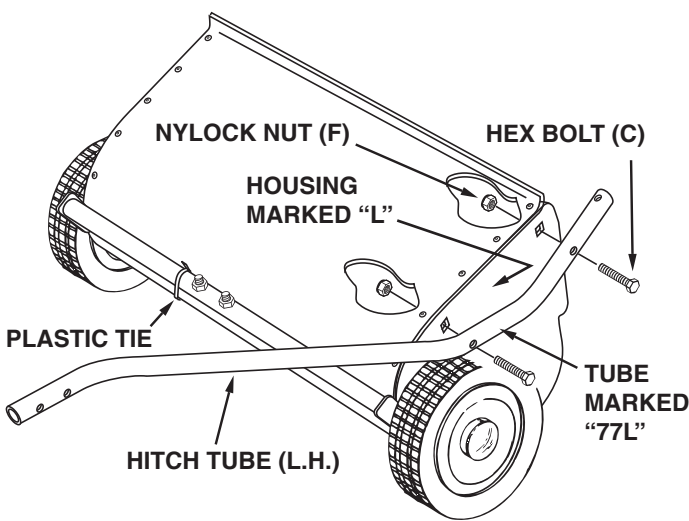
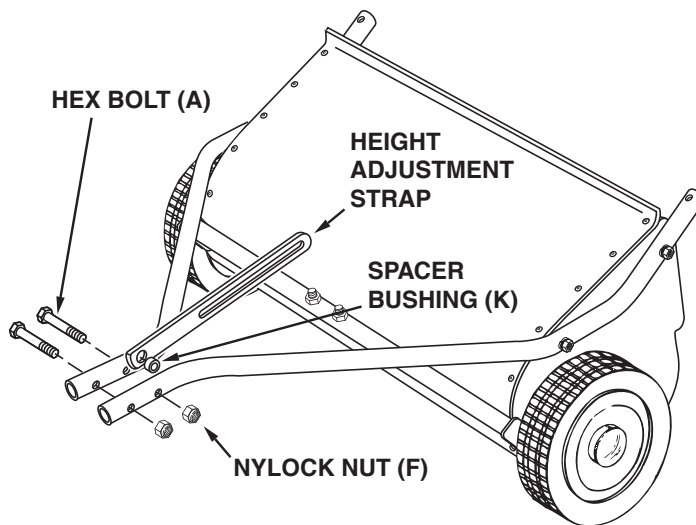
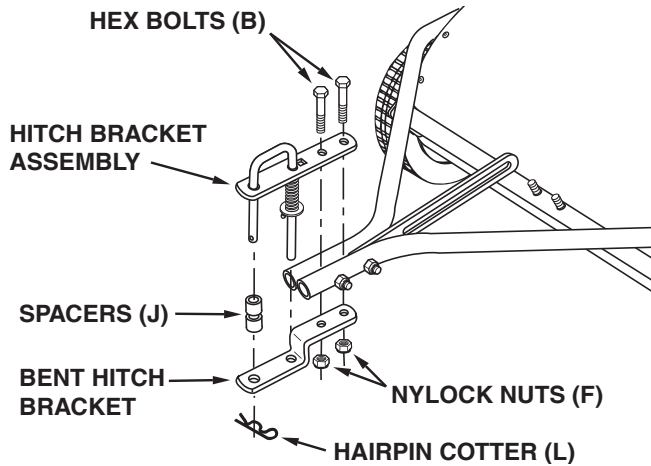

FIGURE 1
FIGURE 2
FIGURE 3
- (1) Scissors or knife
- The hitch tubes are stamped with a "77L" for the left tube and a "76R" for the right tube. The sweeper housing is marked with an "L" on the left with side and an "R" on the right side. See figure 1.
- Hold the left hitch tube against the left side of the sweeper so that the "77L" on the tube faces away from the sweeper. Attach the hitch tube using two hex bolts (C) and nylock nuts (F). Repeat for the right hitch tube, but with the "76R" facing in toward the right side of the sweeper. **Do not tighten yet.** See figure 1.
- Remove the plastic tie that fastens the height adjustment tube to the front of the sweeper housing. See figure 1.
- Place the spacer bushing (I) into the hole in the height adjustment strap. Place the strap and bushing between the hitch tubes, aligning them with the rear hole. Fasten the hitch tubes together, with the strap and bushing between them, using two hex bolts (A) and nylock nuts (F). **Do not tighten yet.** See figure 2.
- If the tractor hitch is less than 10" above the ground, place the bent hitch bracket underneath the hitch tubes and place the hitch bracket assembly on top of the hitch tubes. Insert two hex bolts (B) through the brackets, with the rear hex bolt between the cross bolts in the hitch tubes. Secure the hex bolts (B) with two nylock nuts (F). See figure 3. **Do not tighten yet.**
- Assemble the two spacers (J) onto the hitch pin and secure the pin with the hairpin cotter (L). See figure 3.
- **Tighten** the four bolts in figure 1 that fasten the hitch tubes to the sweeper housing. Next, **tighten** the two bolts in figure 2 that fasten the ends of the hitch tubes together. Finally, **tighten** the two bolts in figure 3 or 4 that fasten the hitch brackets to the hitch tubes.